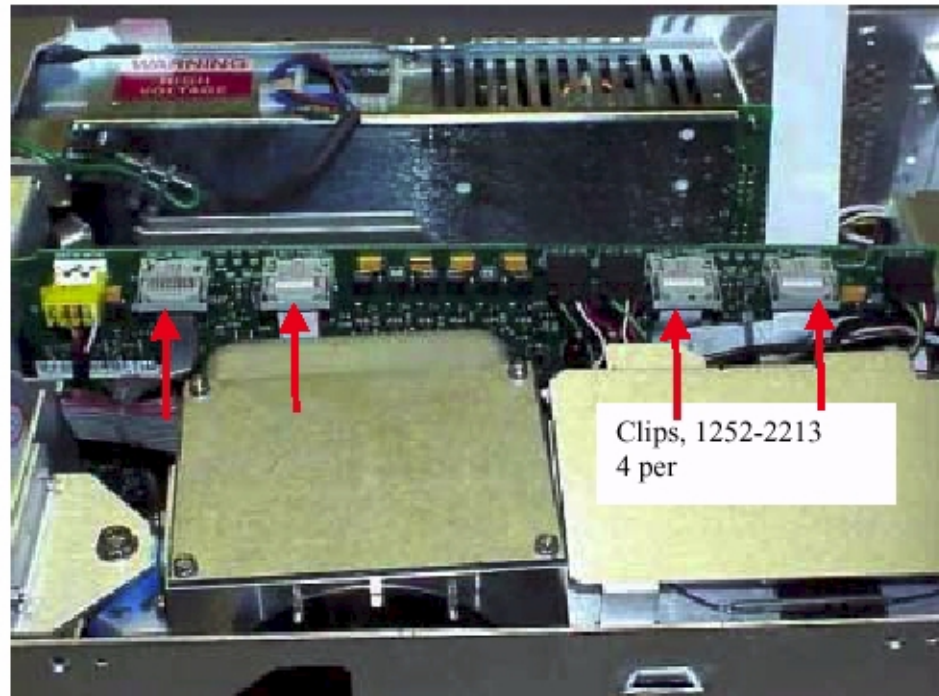

Figure 3-10. Removing the clips from the four ribbon cables on the Servo board
- 3 Remove the clips (pn 1252-2216) from the four ribbon cables. Save the clips as they will be needed when you install the new Servo board. Refer to Figure 3-10.